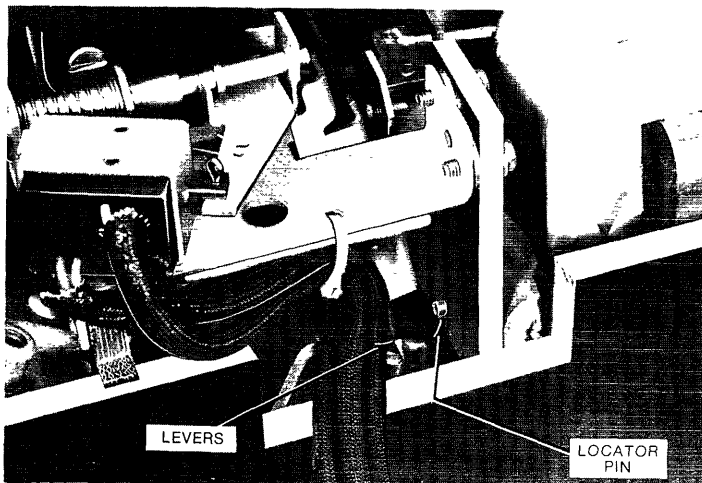

Figure 4
4. Install accessory as shown using locating notches for positioning. Insure that actuator levers are behind cross bar and locator pin engages hole. (Figure 4)